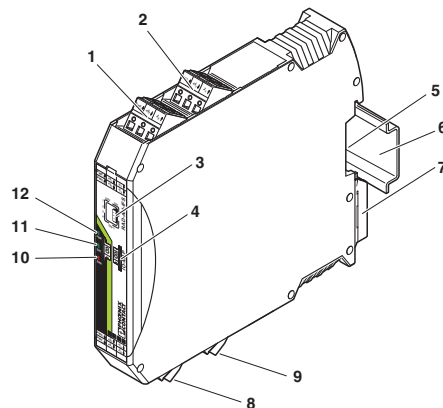

Figure 8-1 RAD-AI4-IFS structure
A supply voltage of 12 V DC, minimum, is available at the PWR₁ connection terminal block for passive sensors (see Figure 8-1, item 1).